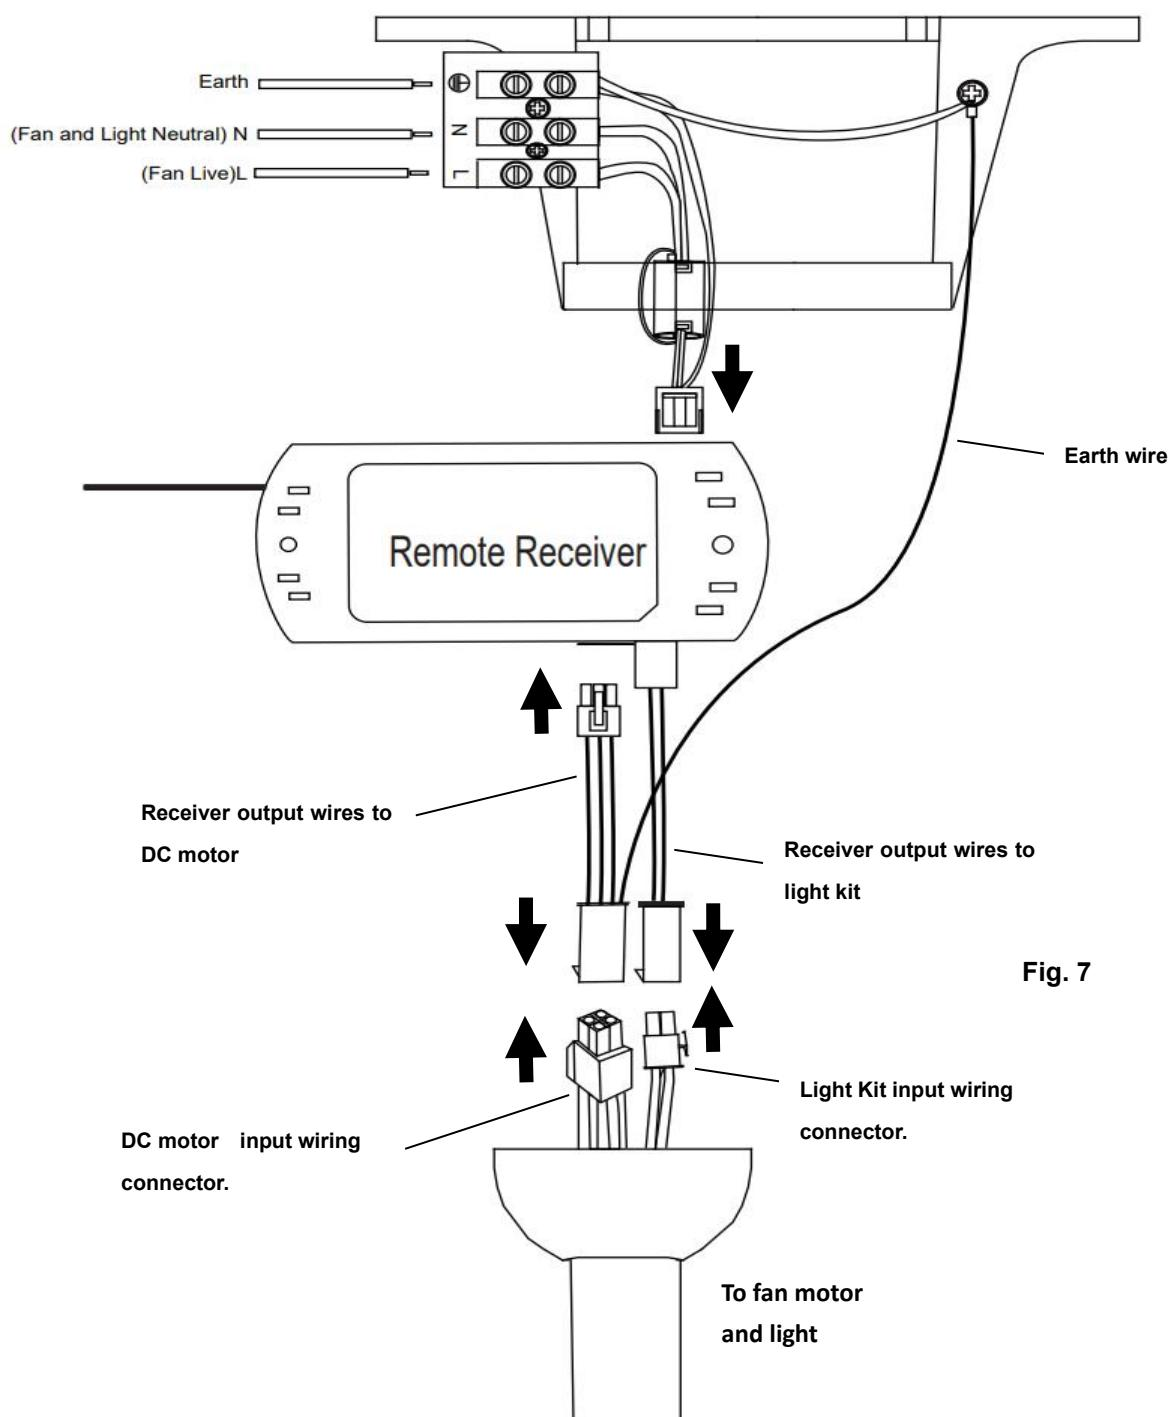

Fig. 7
PREPARE AND COMPLETE THE ELECTRICAL WIRING --- WIRING DIAGRAM (FIG. 7)
From mains supply to mounting bracket terminal block: (Fig. 7)
From mounting bracket to receiver and motor : (Fig. 7)
5. Connect the output wires of DC motor receiver (from mounting bracket with earth wire) to the output of the DC motor receiver (**Fig. 7**). Connect the output wires of DC motor receiver with earth wire (from mounting bracket with earth wire) to the input of the fan motor (**Fig. 7**)